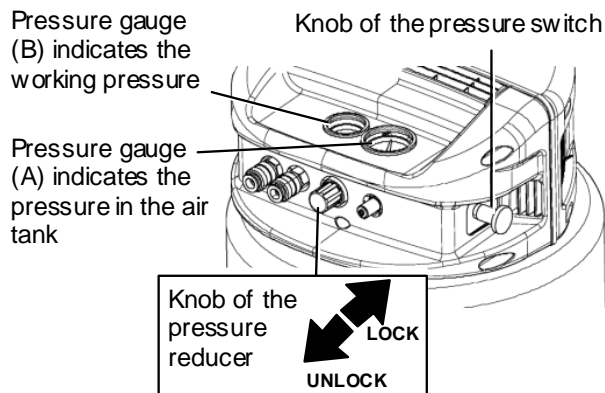

Fig.4
A pressure gauge (B) is provided to know when the required pressure is reached, lock the knob by pushing it down firmly (Refer to Fig. 4).